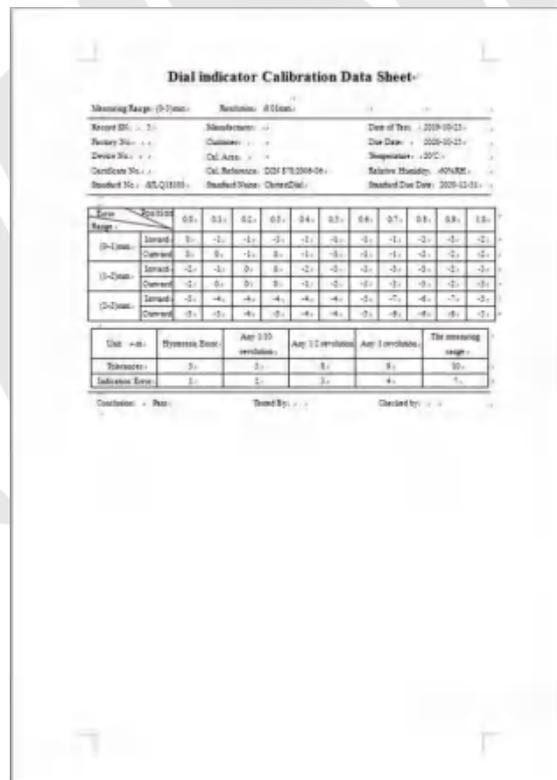

Figure 5-14 Report of dial gauge with graduation of 0.01 mm
- By clicking the “Preview” button, you can preview and print the report. See figure 5-14.